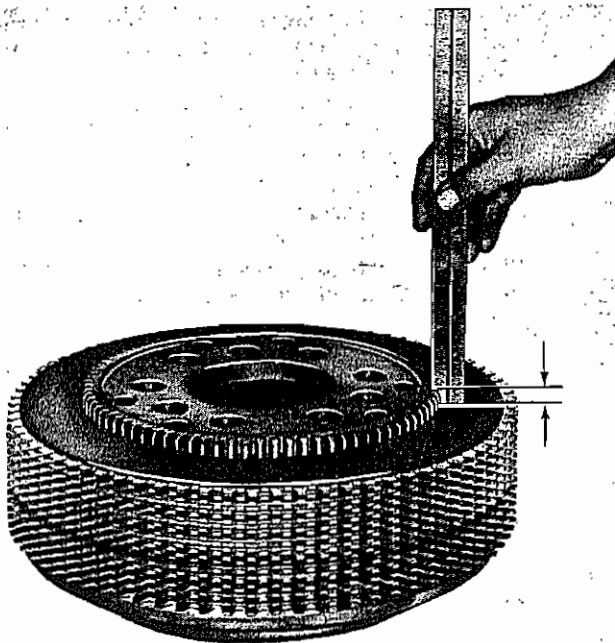

Fig. 14 -- Checking Stack Height (HD16 Shown, HD6, 11 Similar) (T-22038)
3. Refer to Fig. 14 and check stack height (meas-
cessively worn (or combination of both), stack height, Fig. 14, was measured wrong, or clutch was assembled wrong. In this case, disassemble clutch and inspect; if clutch was assembled correctly and stack height is within specifications, and pressure plate and hub friction surfaces seem OK to use, ADD one steel plate next to pressure plate and re-assemble. If measured distance (stand-in) is more than specified maximum distance, remove one steel plate from next to pressure plate (at least one steel plate must be used next to pressure plate).